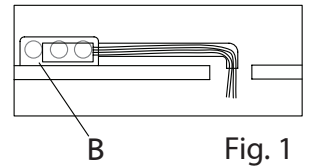

Fig. 1
1. Shut off power to the outlet box (A).
2. The LED driver (B) must be installed in a remote and accessible location near the fixture in accordance with local electrical code. (Fig. 1)
3. Attach the mounting plate (C) to the outlet box using the outlet box screws (D).
5. Install the canopy (E) to the mounting plate and secure with large set screws (F) using the provided large Allen key (G).
6. Insert the power cables (H) into the bushings (J). Secure with small set screw (K) using the provided small Allen key (L).